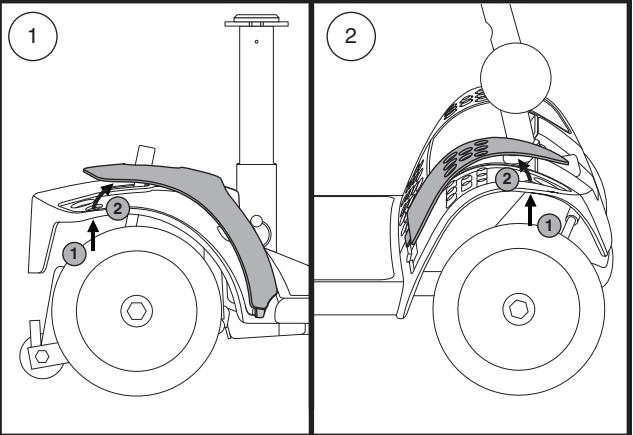

Figure 8. Fender Panels
2. Push through the hole to separate the piece from the Travel Scooter. See figure 8.
**NOTE: When installing the front and rear fender panels, make sure the tab at the bottom of each panel is inserted into the tab opening before securing the panel. See figure 8.**